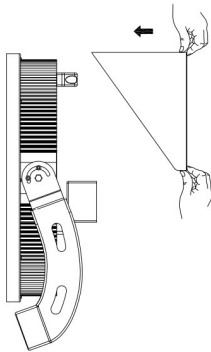
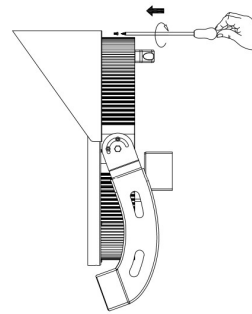

FIG.3
FIG.4
2) Turn around, slide the shroud onto the fixture from the back, align screw holes and lock with screws. (See FIG.3 and FIG.4)